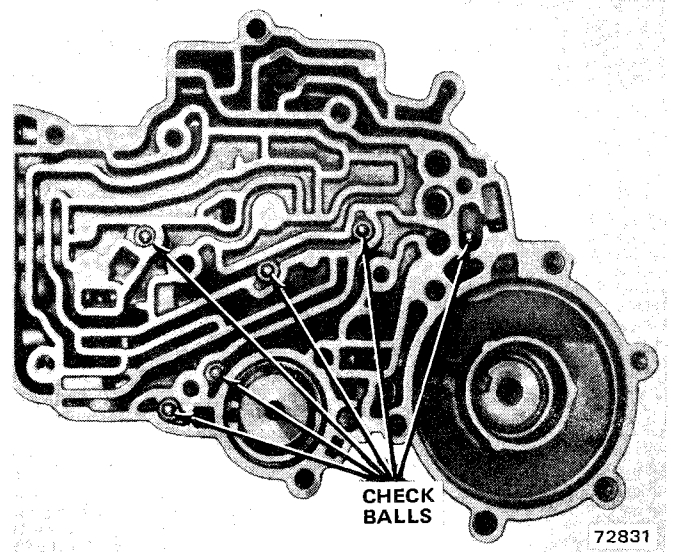

Fig. 2C-156 Spacer Plate Check Ball Location
(3) Install front servo spring and spring retainer in servo bore (fig. 2C-157).